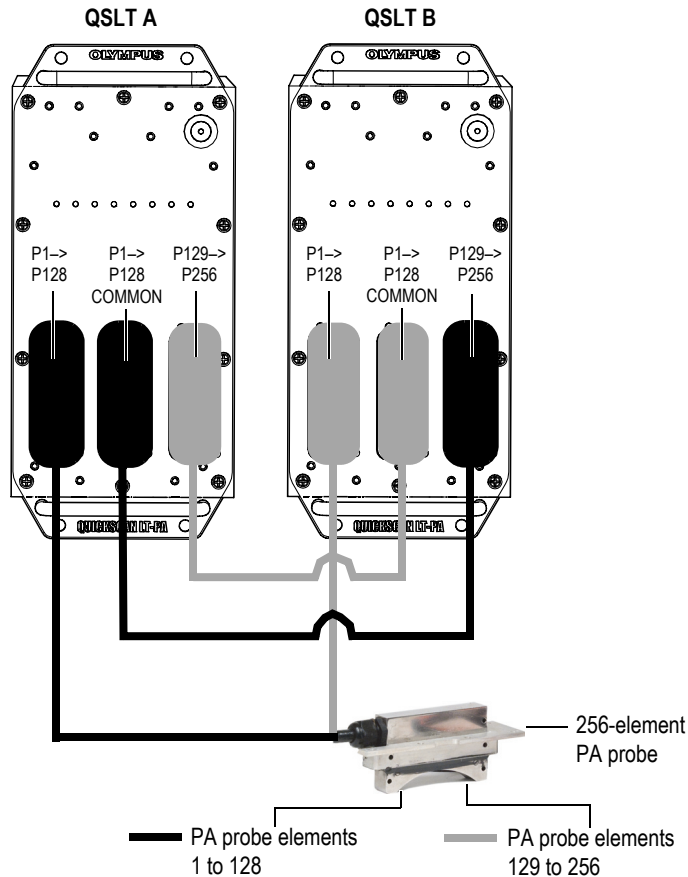

Figure 2-2 QSLT — four apertures in parallel — one PA probe
4. Using a second 4-aperture cable¹, link the P1—>P128 COMMON connector on the QSLT B to the P129—>P256 connector on the QSLT A (see Figure 2-2 on page 37).